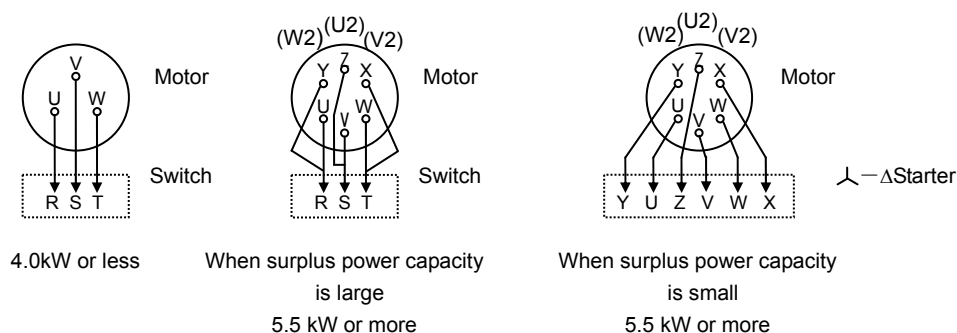

Fig.9 Wiring diagram
(1) Carry out the wiring as per Fig.9.